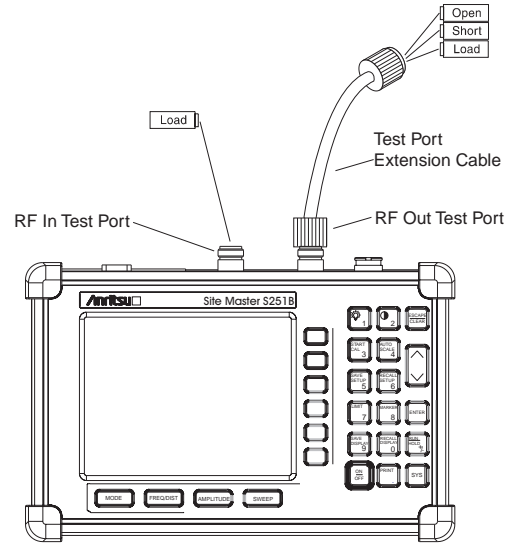

Figure 3. OSL-THRU-ISOL Calibration Setup
14. Follow the instructions on the display to perform a OSL-THRU-ISOL calibration using a 22NF50 Open/Short, 28NF50-2 or SM/PLNF Terminations, and 15NN50-1.5A Test Port Extension Cable (refer to Figure 3).